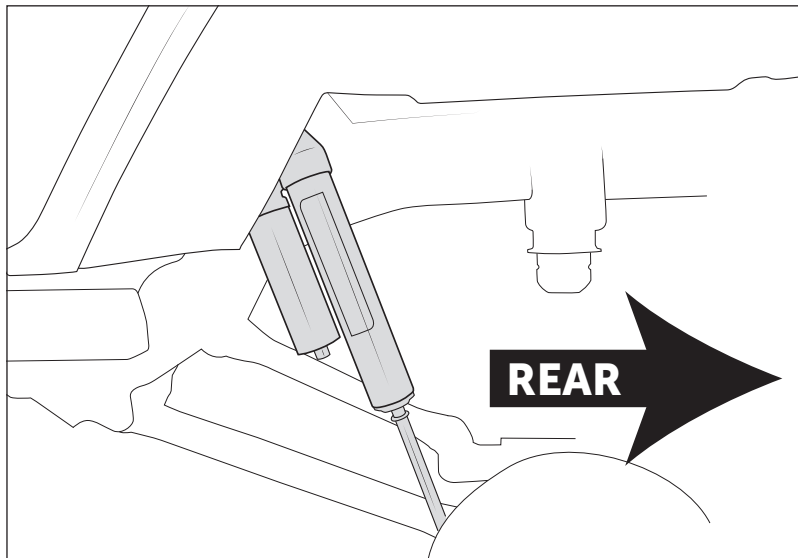

Figure 13
1. Install shock using factory hardware at both ends. Reservoir should point toward front of vehicle when installed (fig. 13).